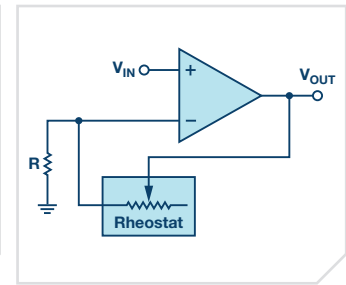

Figure 5. Noninverting amplifier.
- ▶ Op amp gain control (see Figure 5)